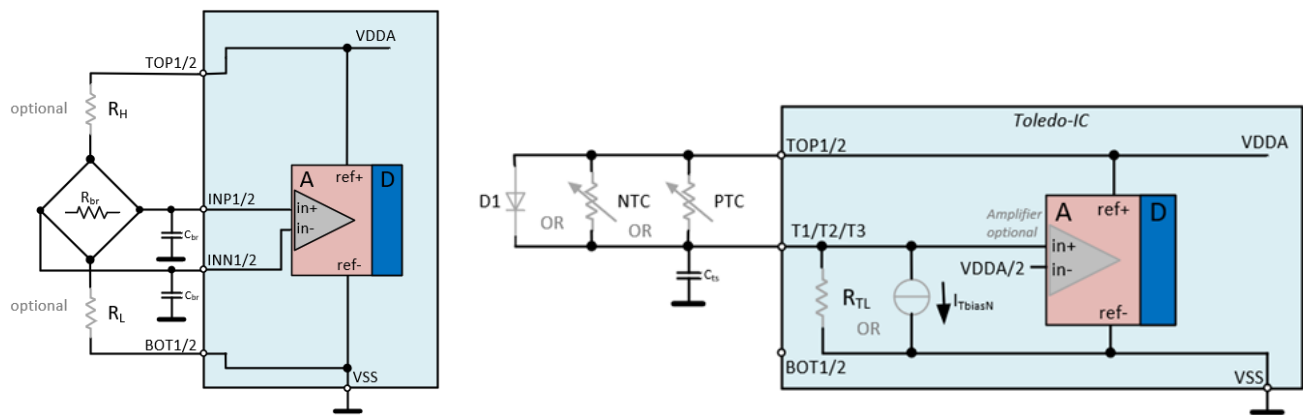

Figure 108. Cbr and Cts Capacitors
- Cbr [nF] and Cts [nF] fields: Values from 0nF to 2nF are allowed, the corresponding capacitors are displayed in Figure 108.